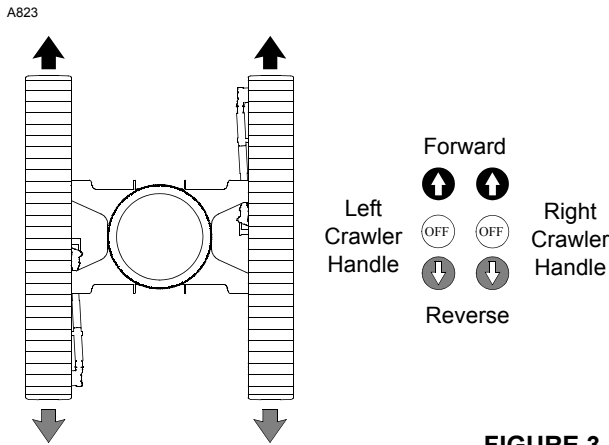

FIGURE 3-26
- 9. To TRAVEL STRAIGHT (Figure 3-26), move both crawler handles same amount in desired direction from off.